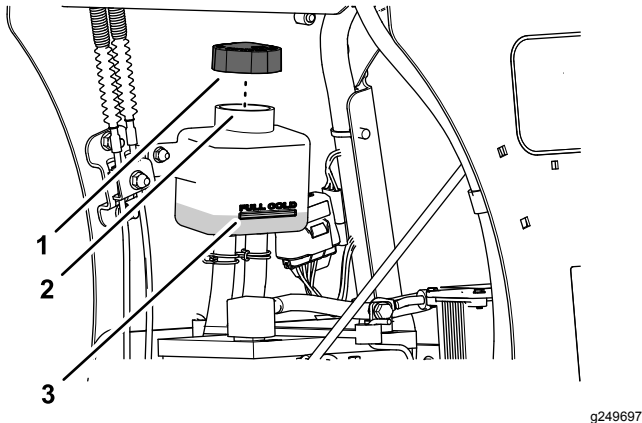

Figure 53
3. Remove the cap from the expansion tank and check the transmission-fluid level in the tank (Figure 53).
4. If necessary, add the specified transmission fluid until the fluid level is at the FULL COLD fill line of the expansion tank (Figure 53).
4. Continue to adding the specified transmission fluid until it reaches the FULL COLD line on the expansion reservoir; refer to Figure 53 in Checking the Transmission Fluid Level \(page 43\).